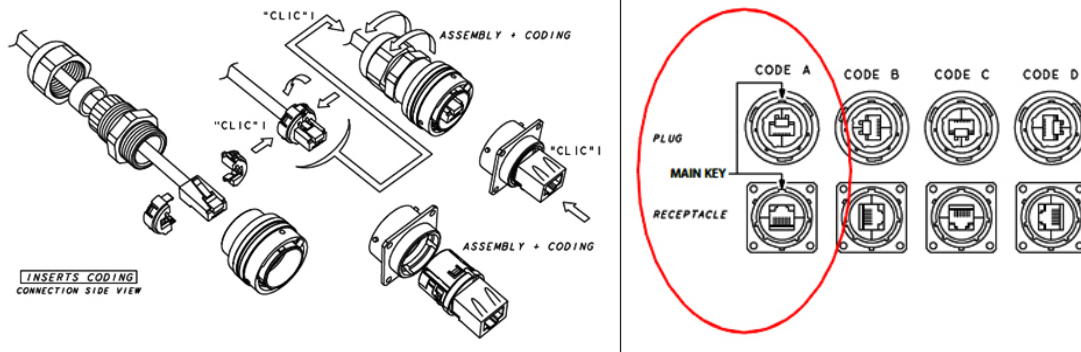

Figure 21: RJ45 Plug Assembly with Code A Orientation
4. Insert the insulator assembly into the metallic housing using the Code A orientation as shown in Figure 21. An audible click will confirm complete connection.